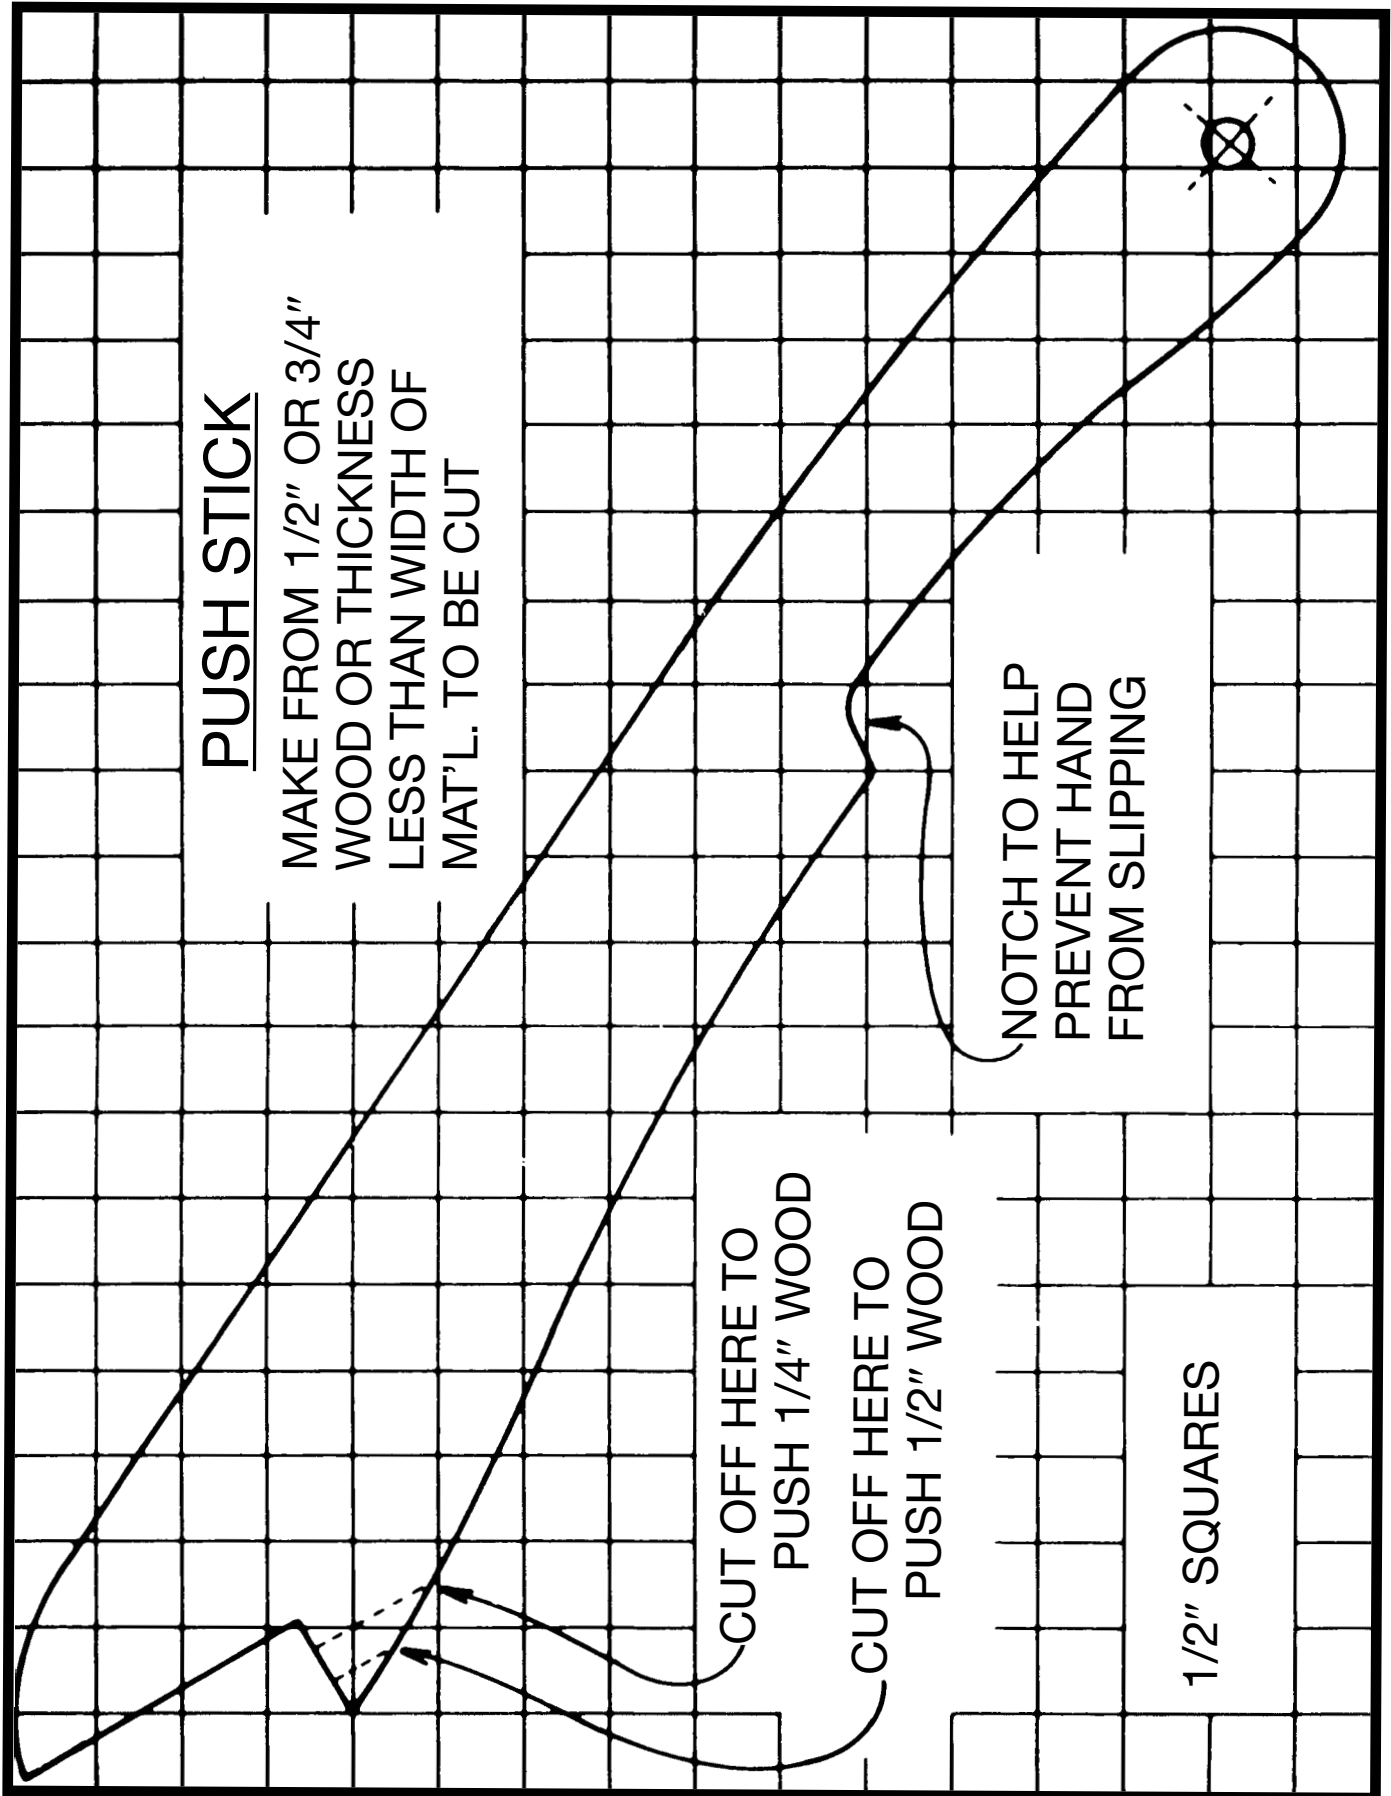

Fig. 79
Ripping involves making a lengthwise cut through a board along the grain. When ripping, the track arm is clamped at "0" on the miter scale. The yoke is then positioned and clamped so that the blade is parallel to the fence in either the inboard or outboard position. When feeding the material, one edge rides against the fence while the flat side of the board rests on the table. The guard should be lowered on the in-feed side until it almost touches the workpiece, as shown in Figs. 77 and 78, to act as a holddown. The splitter and anti-kickback fingers (A) Fig. 77, should be adjusted as described under the section "**ADJUSTING SPLITTER AND ANTI-KICKBACK FINGERS**" in this manual. The operators hands should always be well away from and to the side of the blade. When ripping narrow work, always use a push stick as shown in Fig. 79, to push the work between the fence and blade. The workpiece must have one straight edge to follow the fence. If board is bowed, place hollow side down. The cutting-head clamp knob should be securely tightened for all ripping operations. Pay particular attention to warning label (B) Fig. 78, which states that material must never be fed into the outfeed end of the blade guard.
⚠ WARNING: WHEN RIPPING WORK LESS THAN FOUR INCHES WIDE, A PUSH STICK SHOULD BE USED TO COMPLETE THE FEED (SEE FIG. 79)
When ripping work less than 4 inches wide, a push stick should be used to complete the feed and could easily be made from scrap material by following the pattern shown in Fig. 79.